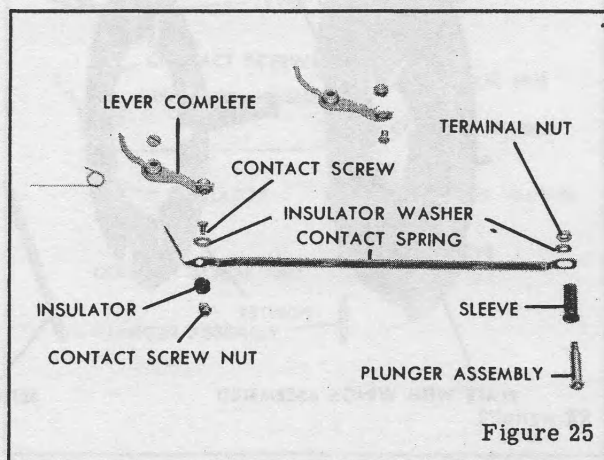

Figure 25
9. Shutters of the flash receptacle type are disassembled as follows: Using Tool No. 503J, remove the TERMINAL NUT, figure 25, on the end of the PLUNGER ASSEMBLY. Remove the case INSULATOR WASHER, the plunger assembly, and the terminal body insulating SLEEVE. On the contact end of the CONTACT SPRING, remove the CONTACT SCREW NUT, using Tool No. 503L.